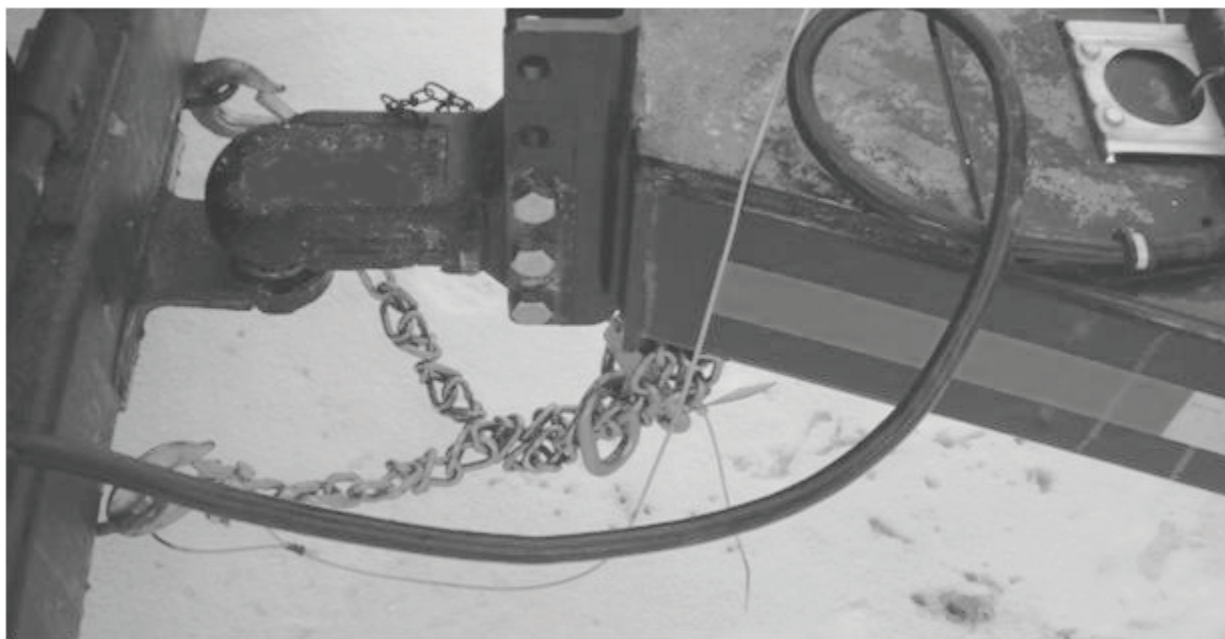

Figure 1.1
9. Attach safety chains to tow vehicle by crossing chains (Figure 1.1). Allow enough slack in chains necessary for turning.